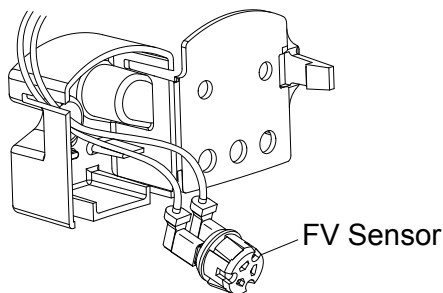

FIGURE 1.
- Do not locate the water heater near an air-moving device. The operation of air-moving devices such as exhaust fans, ventilation systems, clothes dryers, fireplaces, etc., can affect the proper operation of the water heater. Special attention must be given to conditions these devices may create. Flow reversal of flue gases may cause an increase of carbon monoxide inside of the dwelling (Figure 1).